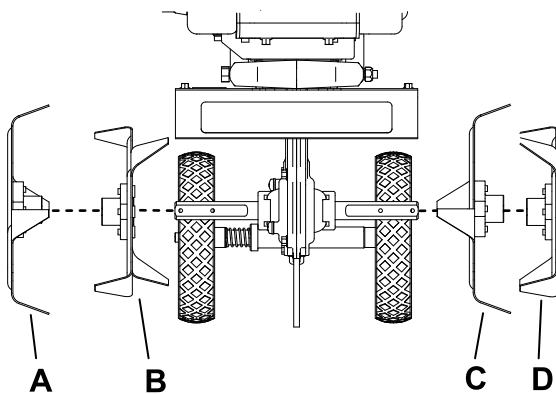

Figure 12
**Note:** To dig more aggressively, reverse the order of the tines so that the tips face forward (“D”, “C”, “B”, “A”, when viewed from the operating position) as shown in Figure 12.